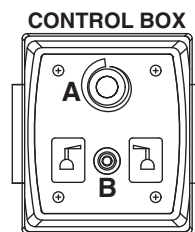

Fig. 5
2. The In-Cab control box is used as follows: (**Fig. 5**)